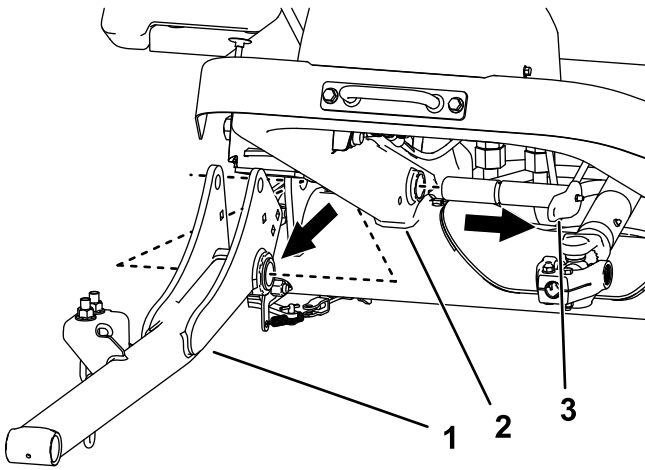

Figure 5
- E. Remove the lift arms and large pins from the machine frame (Figure 5).